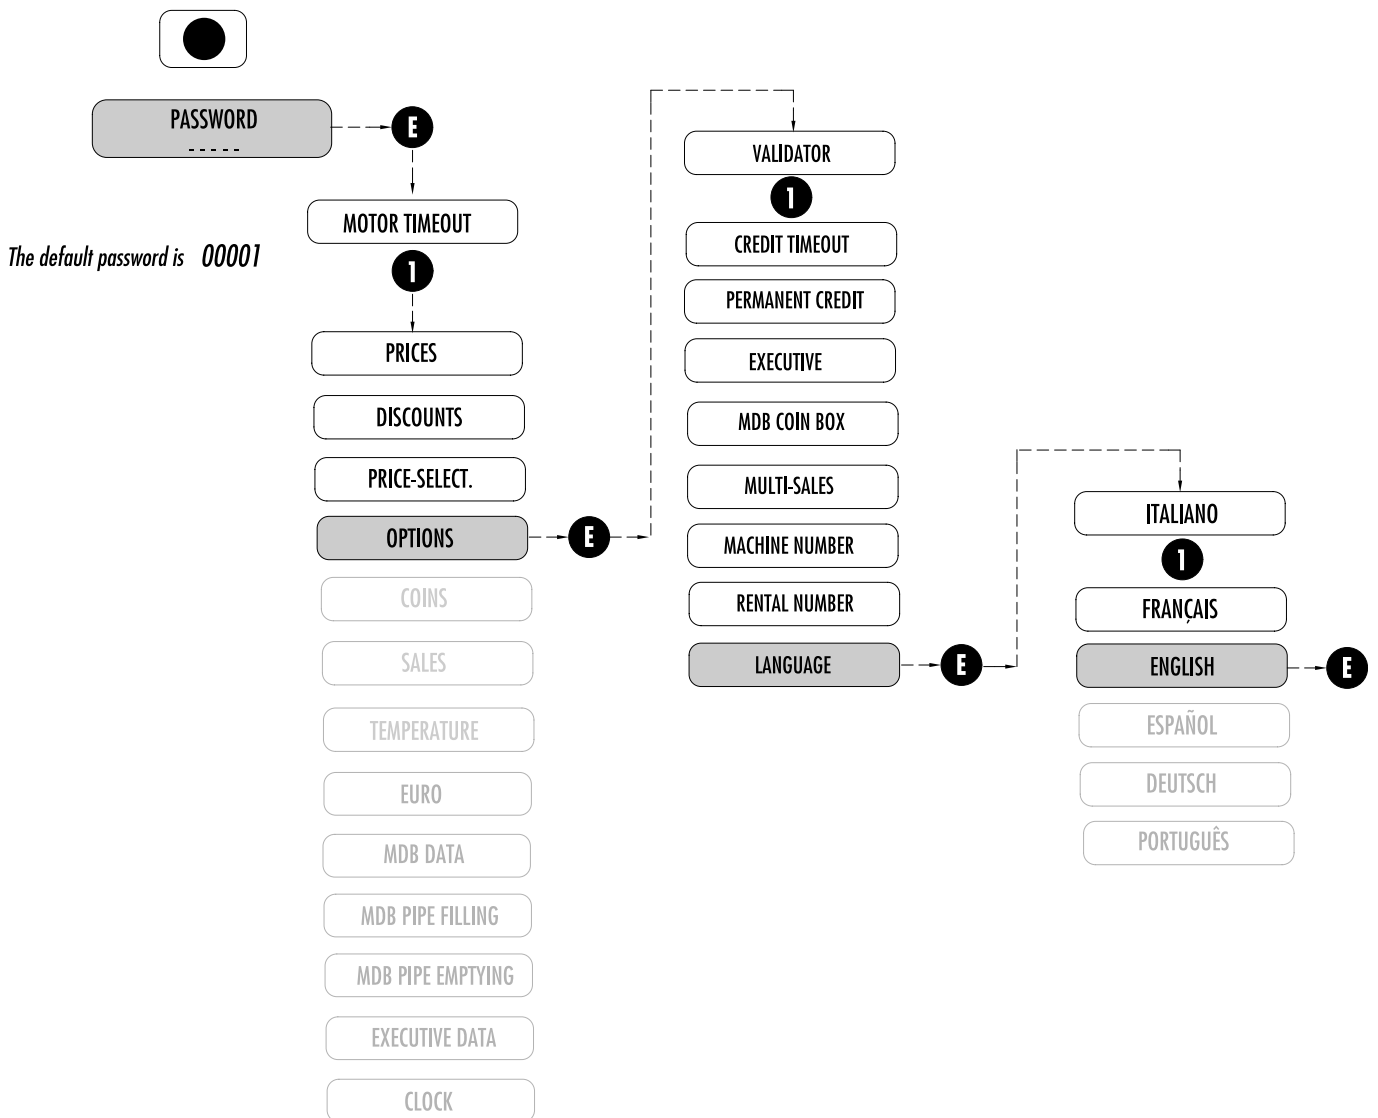

Fig. 7.3
7.1.1 Language selection (Fig. 7.3)